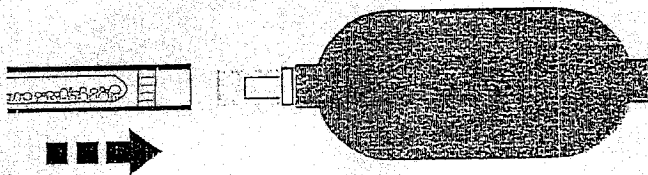

fig. 2
- Connect tube and aspirator bulb as. See fig. 2.